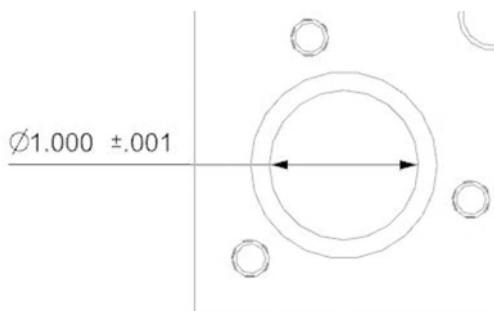

Figure 6-26 Product Manufacturing Information
I. Product Manufacturing Information (PMI) represents annotations on the part design that are taken into consideration automatically during manufacturing process creation; these annotations affect the operations that are developed. In the example in Figure 6-26, a bilateral hole-tolerance is given to each of the 1.0 diameter holes at the corners of the part. Another commonly used annotation is for surface finish requirements.